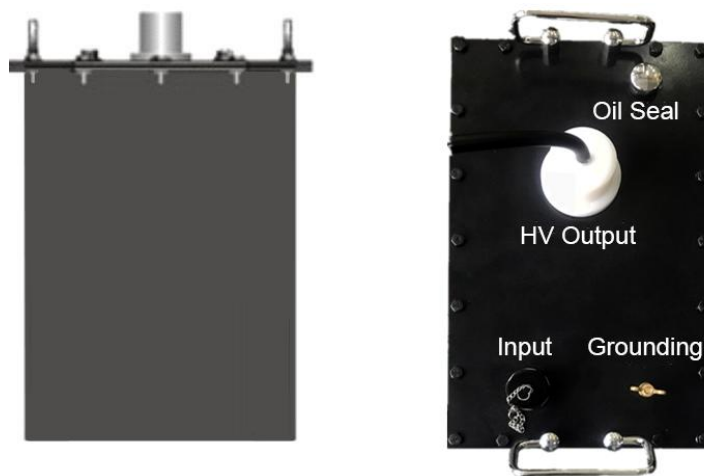

Figure 2 Schematic diagram of the booster structure
2.The schematic diagram of the booster structure is shown in Figure 2: